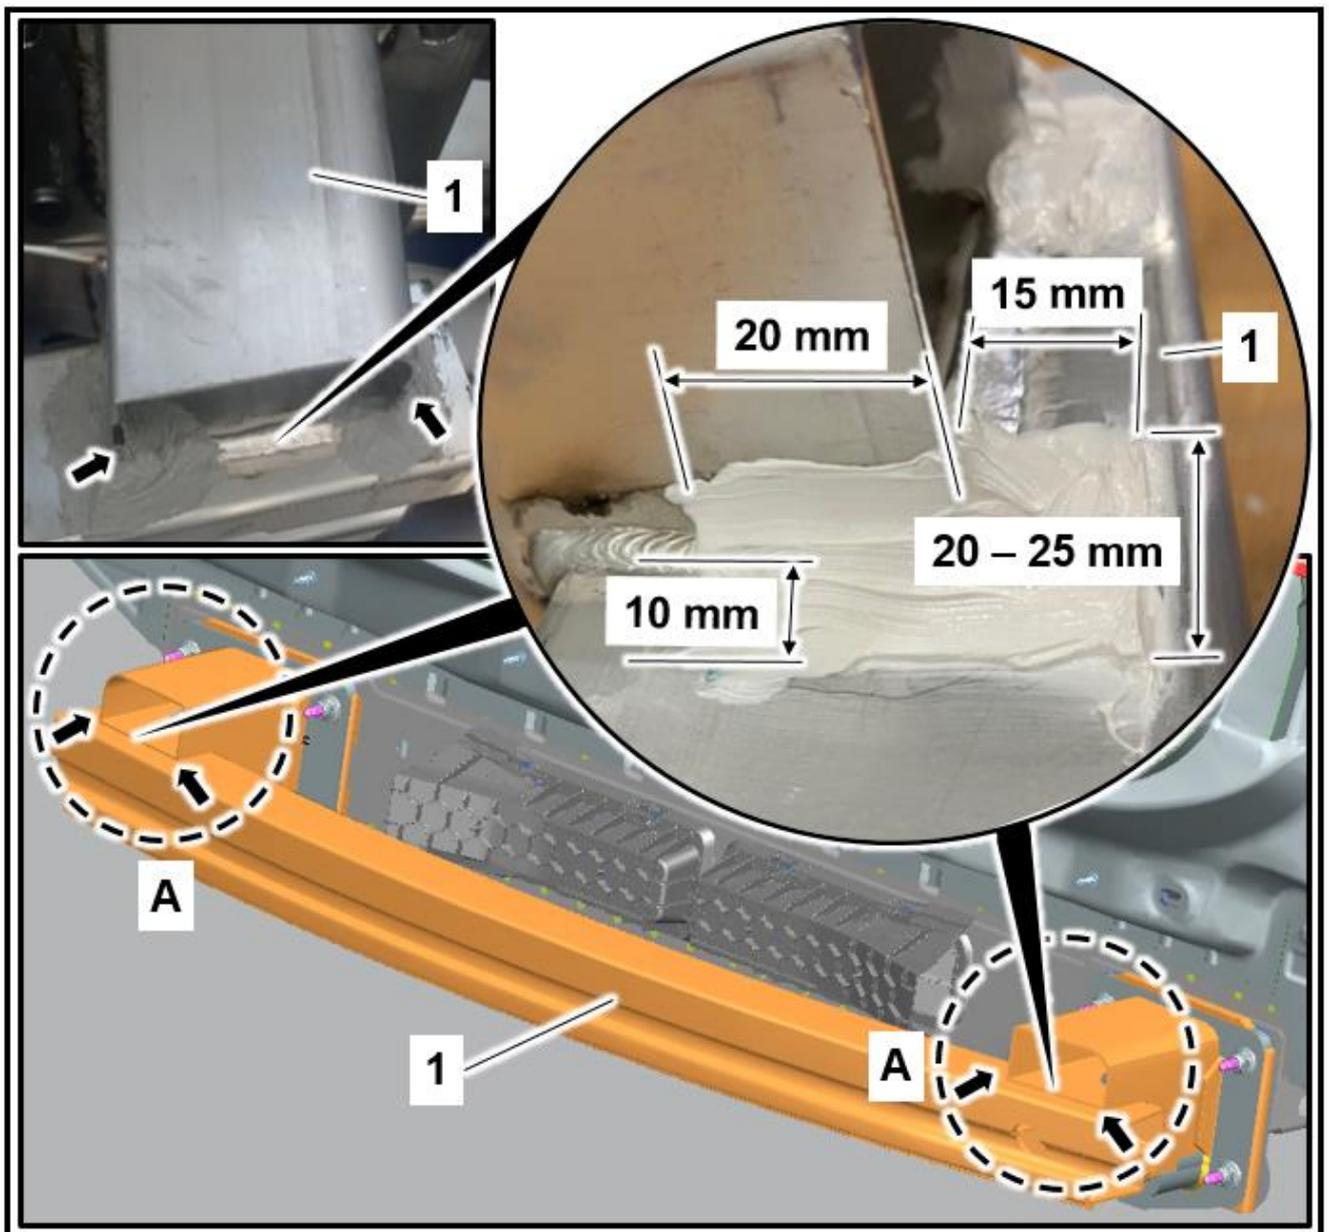

Figure 1
2. Clean affected areas (A, arrows, Figure 1) at weld seams of carrier for rear bumper (1, Figure 1).
3. Apply activator to affected areas (A, arrows, Figure 1) on weld seams of carrier for rear bumper (1, Figure 1).
4. Apply seam seal (transparent) to weld seams of carrier for rear bumper (1, Figure 1) in affected areas (A, arrows, Figure 1) as shown and spread.
i The specified dimensions (Figure 1) must be observed here (in Figure 1, all specified dimensions \pm 10 mm).